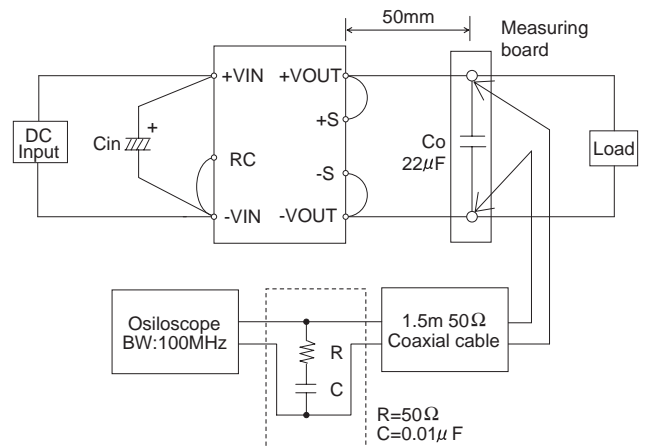

Fig.3.4 Measuring method of Ripple and Ripple Noise
■ Ripple and Ripple Noise are measured, as shown in the Fig.3.4.  $C_{in}$  is shown in Table 2.1.